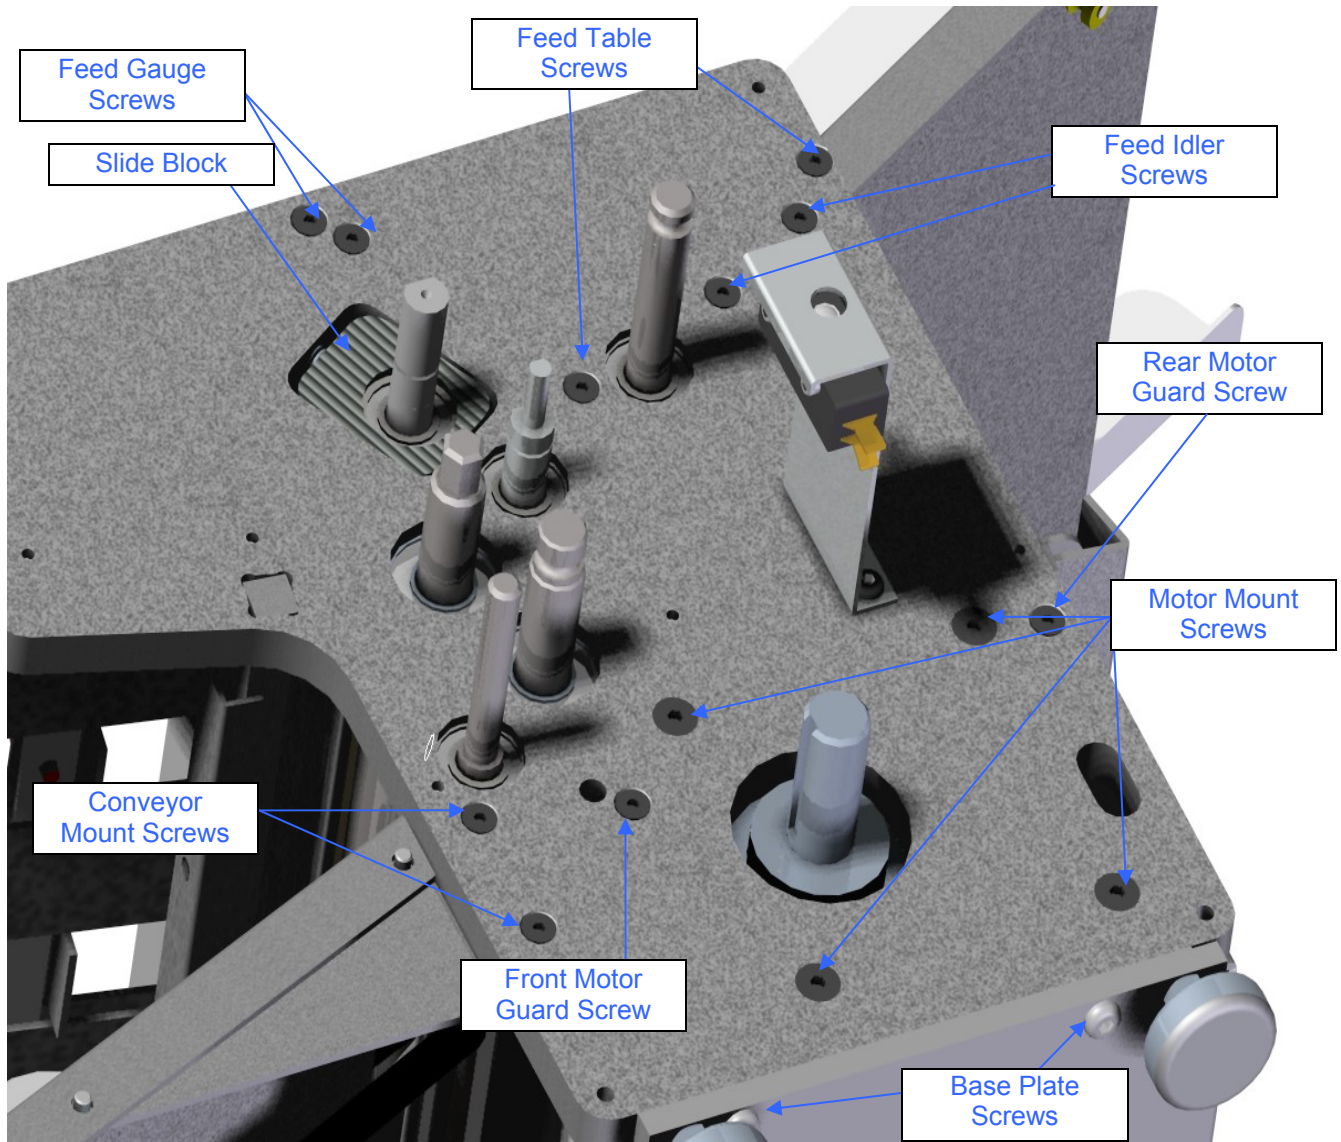

Figure 3: Motor Side Frame Removal
14. Remove the screws which attach the **Feed Table, Feed Idlers, Feed Gauge, Base Plate, Conveyor** and **Motor Covers** [Figure 3].
18. Slowly pull up on the **Motor Side Frame**. As you pull the frame off of the rolls, reach under and push the **Slide Block** [Figure 3] up against the **Motor Side Frame** so that it stays with the frame as you remove it.
2. Remove the **Feed Idler Screws** from the **Electrical Side** [Figure 3].
3. Remove the **Feed Idler Screws** from the **Motor Side** [Figure 3].
4. Remove the **Retaining E-clips** from the **Feed Drive Shaft** [Figure 3].
3. Loosen by 2 turns the **Feed Table**, **Feed Idler**, **Conveyor**, and **Front & Rear Motor Guard Screws** on the **Motor Side Frame** [Figure 3].
4. Remove the **Feed Gauge Screws** from both sides [Figure 3].